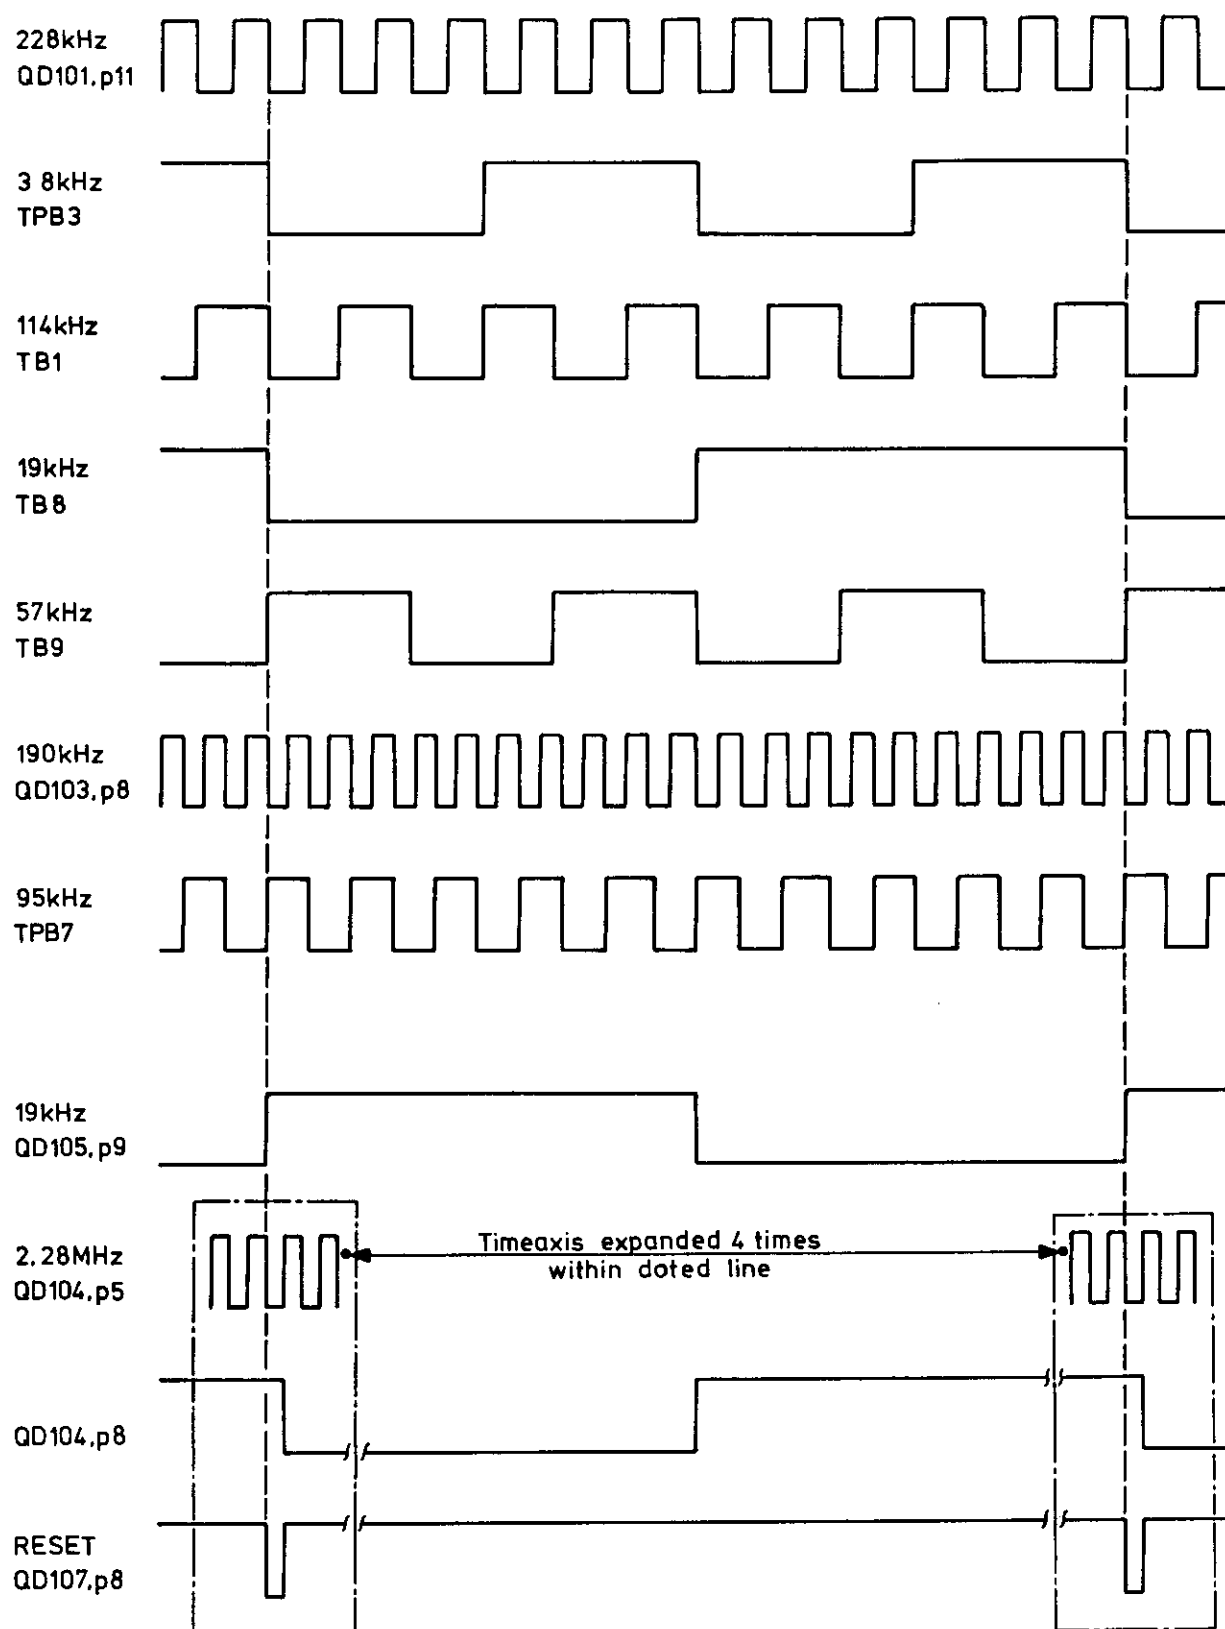

Fig. C4 Signals in the digital circuitry
The pilot signal is generated by a square-wave from the digital circuitry, see item 10 and drawing 1830-A1. This square-wave is fed to the pilot integrator QA107 together with a 57 kHz and a 95 kHz square-wave also generated in the digital circuitry. The phase relationship and the current level are such that the 3rd. and 5th. harmonics of the 19 kHz are compensated, see Fig. C4. Only harmonic components of the 7th. and 9th. order and higher of the 19 kHz are present in the output signal of the pilot integrator. The 7th. harmonic, 133 kHz, is eliminated by a 133 kHz trap, which is a parallel resonance circuit. At resonance the 7th. harmonic of the 19 kHz is attenuated approximately 20 dB by the circuit together with R1.
The phase relationship between the signals to the Modulators, the Pilot integrator and the reset pulse is shown in Fig. C4.